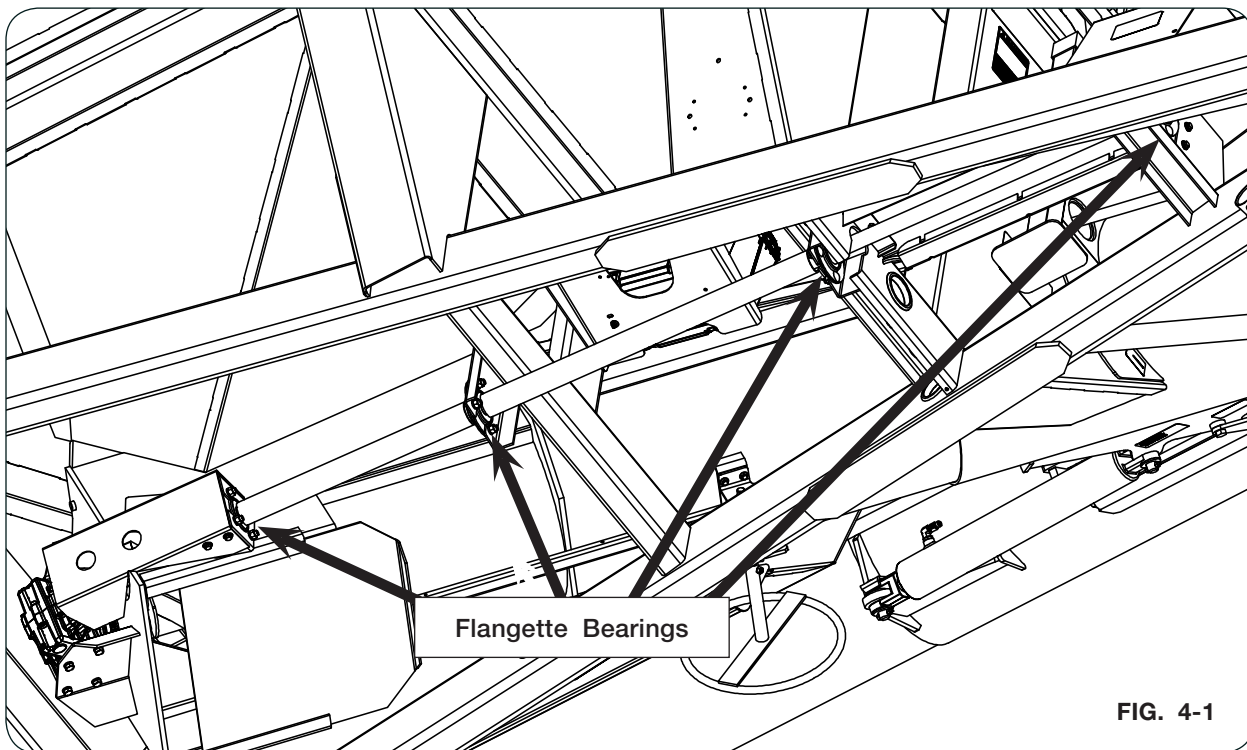

FIG. 4-1
2. Loosen the setscrews (9399-071) on all flangette bearings (9003920) (Fig. 4-1).